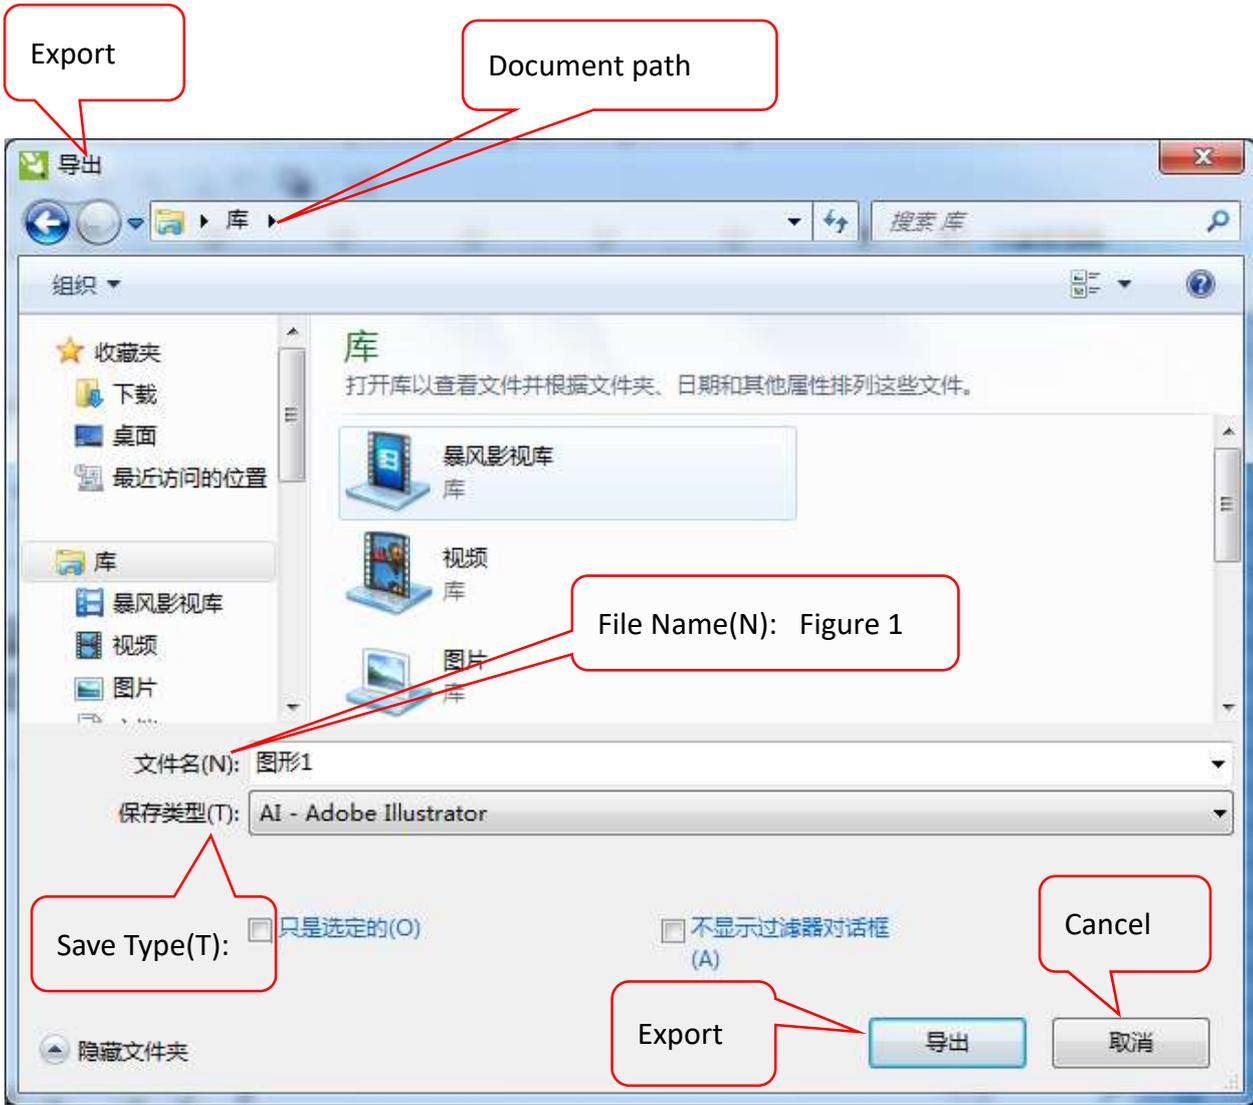

Figure 4-3 Export File Dialogue Box
Step 3: Click on "File - Export", and a dialog box as shown in Figure 4-3 will pop up. Please follow the instructions below to operate;